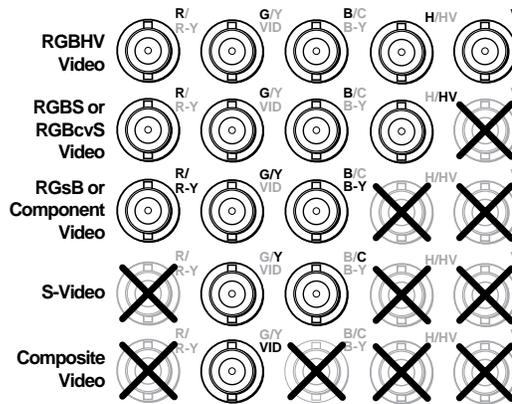

Figure 2-3 — Connections for various input video formats
- ② **Input 1 through Input 4 video connectors** — Connect computer or RGB video, component video, S-video, or composite video sources to these female BNC connectors. Figure 2-3 shows how to connect the various video formats.